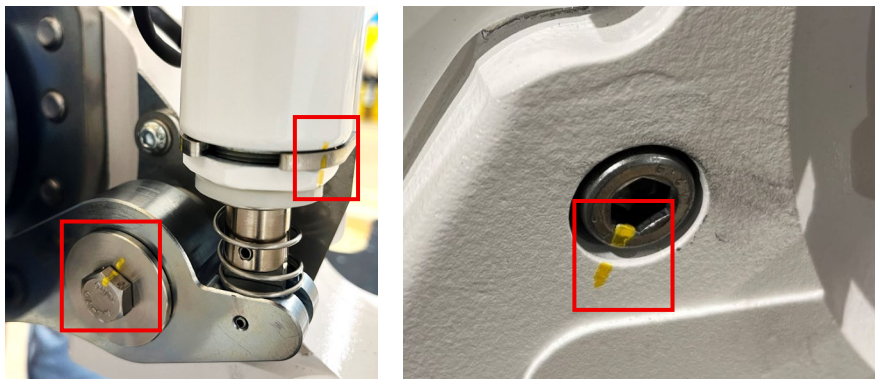

Figure 24: Torque marks in yellow on fastener heads
- k. **CONFIRM** mounting hardware torque marks are aligned (Fig. 24):